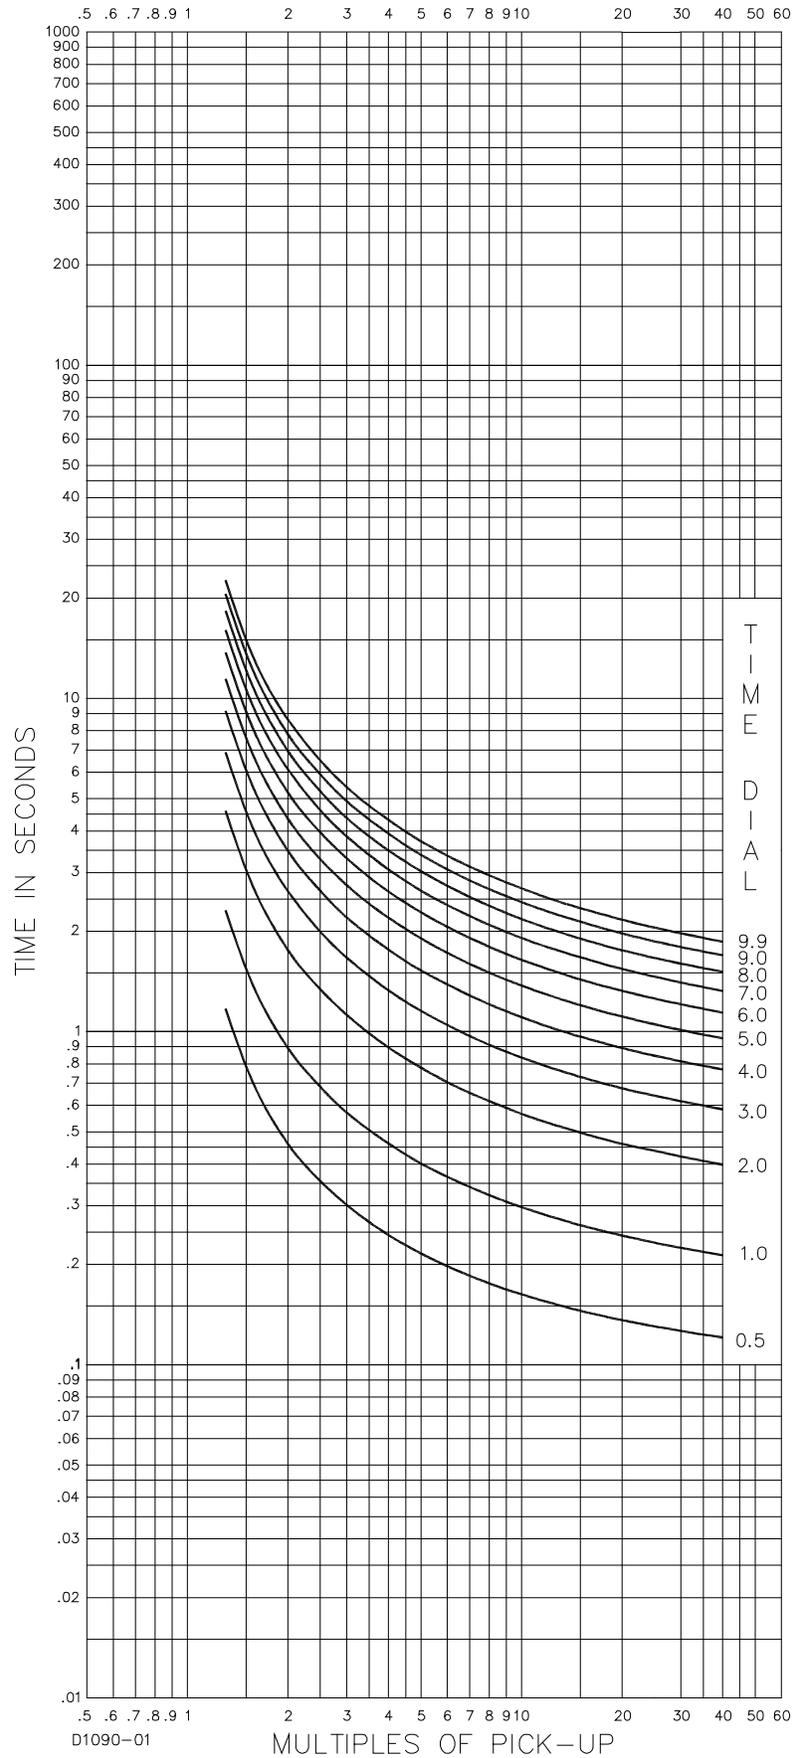

Figure 7-4. M-Moderately Inverse Curve (Similar to ABB CO-7)
- M-Moderately Inverse (Similar to ABB CO-7): Figure 7-4